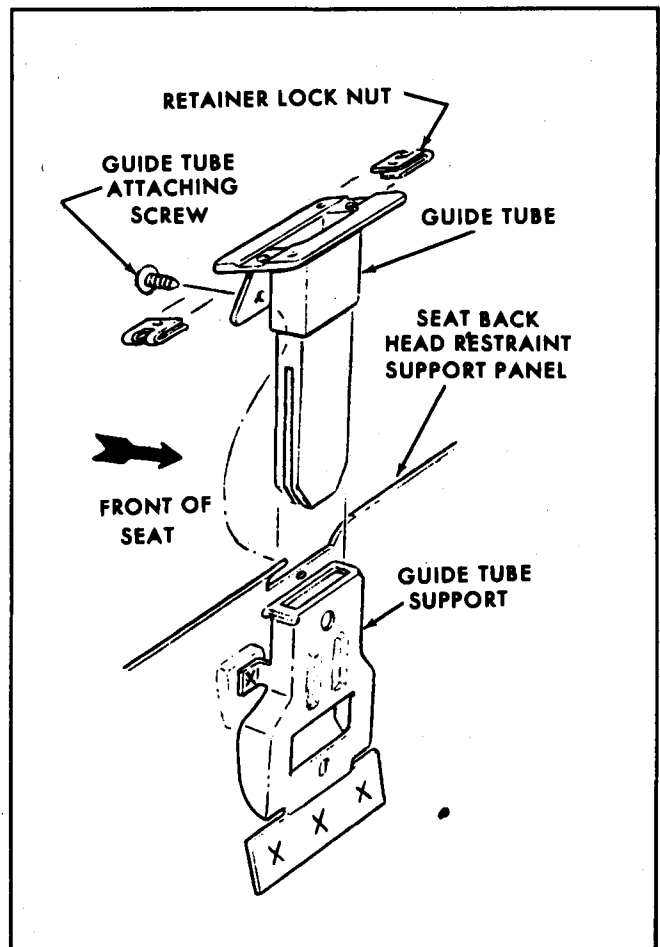

Fig. 14-33-Head Restraint Guide Tube Typical of All Conventional Seats
3. Remove screw securing guide tube and slide guide tube out of support (Fig. 14-33).